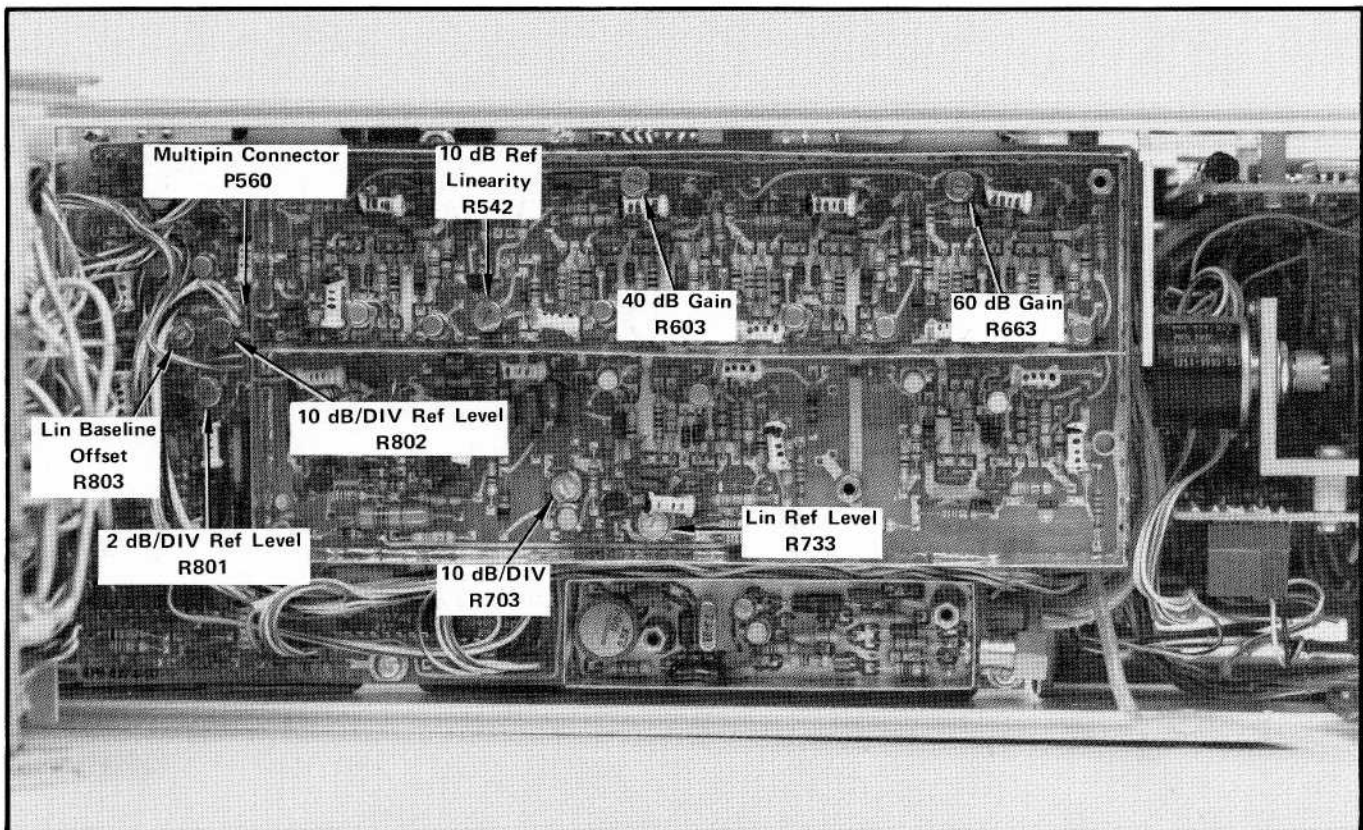

Fig. 4-4. Calibration adjustments and test points on the Function IF board.
Pull the harmonica (multipin) connector P560, on the Function IF circuit board (Fig. 4-4).
b. Adjust the Lin Baseline Offset R803 (Fig. 4-4) clockwise, from a fully ccw position to a point where the trace stops moving down. (Do not adjust past this point).
b. Apply a 10 MHz signal at  $-10$  dBm, from a calibrated signal source, through appropriate adapters (BNC female to SEAELECTRO female, SEAELECTRO male to male adapter, and SEAELECTRO female to harmonica connector) to P560. (Fig. 4-4). Part numbers for these adapters are provided under Equipment Required List. If an accurate 10 dB, 50  $\Omega$  step attenuator is available, connect it in series with the signal source.
c. Adjust the 2 dBm/Div Ref Level R801 (Fig. 4-4) so the trace is at the 5th graticule line down from the top.
g. Adjust Lin Ref Level R733 (Fig. 4-4) so the trace is at the top graticule line.
i. Adjust the 10 dB/DIV Ref Level R802, (Fig. 4-4) so the trace is 7 divisions down from the top graticule line.
j. Increase the signal input level so it is -10 dBm. Adjust the trace so it is 1 division from the top graticule line with 10 dB/DIV R703 (Fig. 4-4).
k. Increase the signal level to 0 dBm, then adjust the 10 dB Ref Linearity R542 (Fig. 4-4) so the trace is at the graticule line.
o. Adjust the 40 dB Gain R603 (Fig. 4-4) so the trace is at the reference level or top of the graticule.
r. Adjust the 60 dB Gain R663, (Fig. 4-4) so the trace is at the reference level.